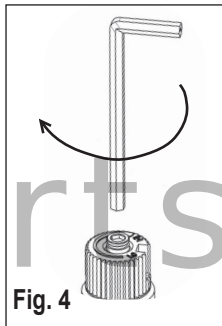

Fig. 4
- Using the Allen wrench as shown in fig. 4, rotate the screw clockwise until a torque of 9 in ·lbs.